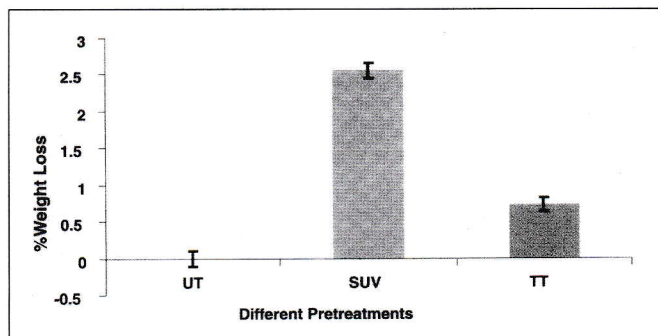

Fig. 4) Comparison of percentage weight loss between unpretreated and pretreated PP in 6 months
Marine strains namely *Bacillus sphaericus* GC subgroup IV (Alt), *Bacillus cereus* subgroup A (BF20), *Brevundimonas vesicularis* (BF10) and *Curtobacterium flaccumfaciens* (BF12) utilise LDPE and HDPE films in mineral salt medium under *in vitro* conditions as carbon source [24]. Tensile strength of thermally pretreated LDPE and HDPE and untreated starch-blended LDPE decreased by 27%, 14.8% and 30.5%, respectively, with *B. sphaericus* and the corresponding decrease in crystallinity was 8%, 2.2% and 8.5%, respectively. In this current study, weight loss of 19% with thermally pretreated LDPE (100°C for 10 days), 10% with unpretreated LDPE, 9% with thermally pretreated high-density polyethylene (HDPE) and 3.5% with unpretreated HDPE reacted with *B. sphaericus* were observed here [21]. Thermally pretreated pure polypropylene (PP) showed 7.1% and 10.1% weight loss in six and twelve months respectively, while untreated PP showed a weight loss of only 0.42% in 12 months with mixed soil microorganism [24]. Experiments conducted in our lab showed that short UV (short UV) pretreated PP and thermally pretreated PP showed a weight loss of 2.7% and 0.7% respectively where as untreated PP recorded no weight loss after subjected to biodegradation with pure culture of *Bacillus flexus*. (Fig. 4)